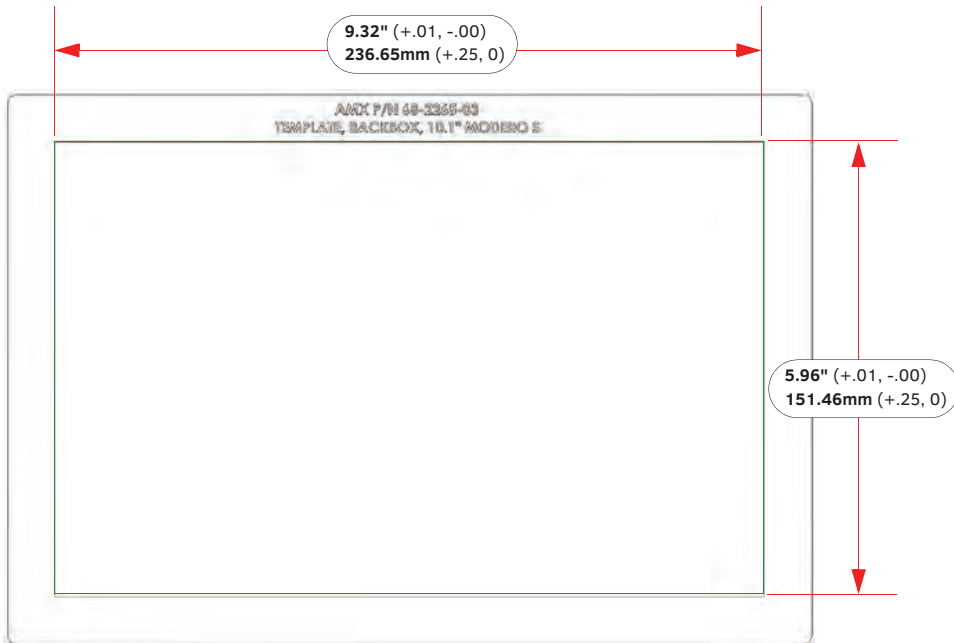

FIG. 23 MD-1002 Cutout Dimensions
- **MD-1002** - Template, Backbox, 10.1" Touch Panel (**68-2265-03** - see FIG. 23 on page 28)